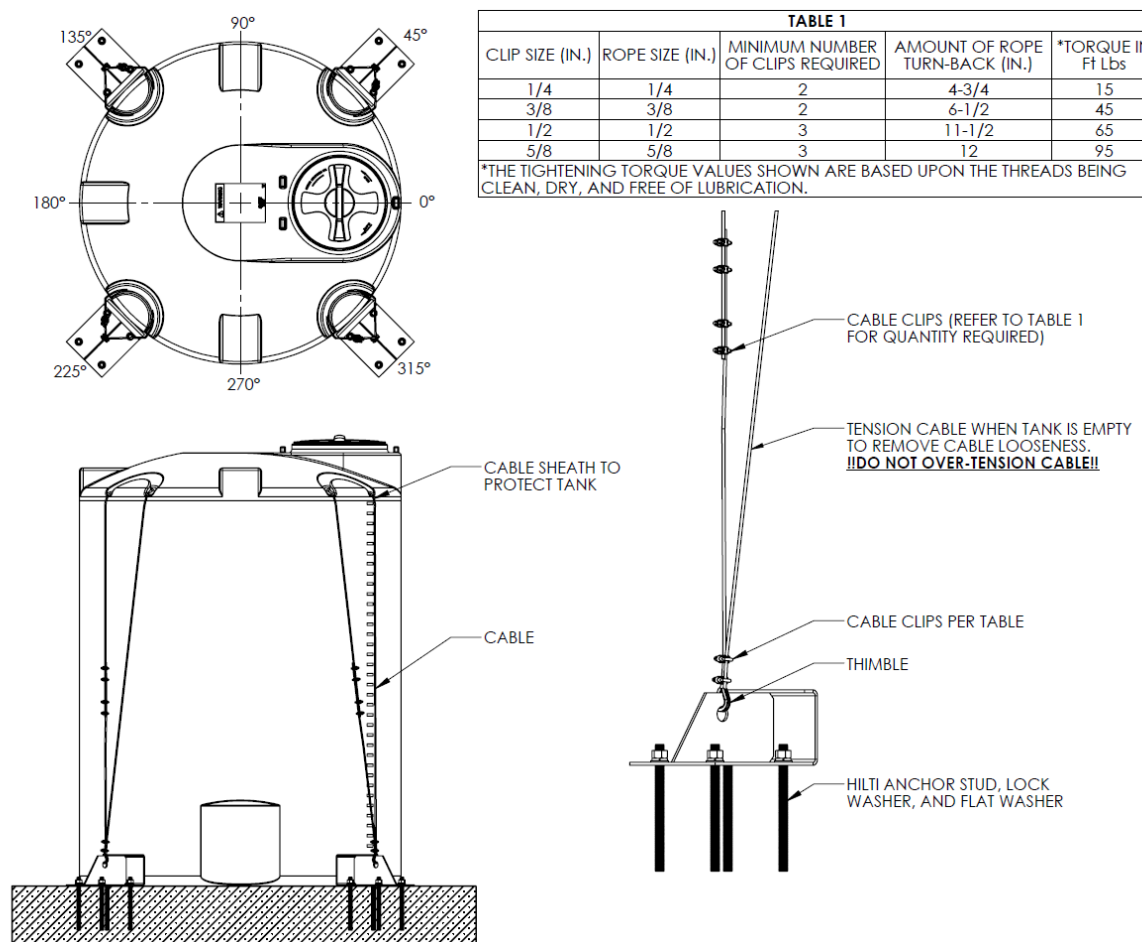

Figure 8.1
8.1.1 The wind/seismic tank restraint system is designed for tank restraint on an appropriate concrete pad under 150 MPH wind or IBC/CBC seismic requirements. Site specific calculations are available from Snyder Industries as a purchased option. Using the assembly drawing and table sent with the assembly, verify that all parts are present. Please see Figure 8.1 for a restraint system installation and assembly information.